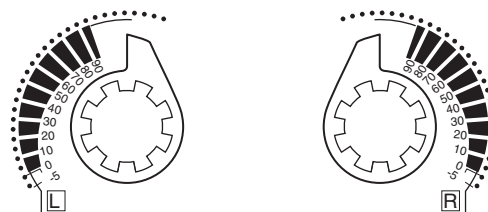

Figure-7 Installing the Position Indicator.
2. Place the position indicator onto the actuator spline in the approximate position shown in Figure-7. Fasten it with the retaining clip.